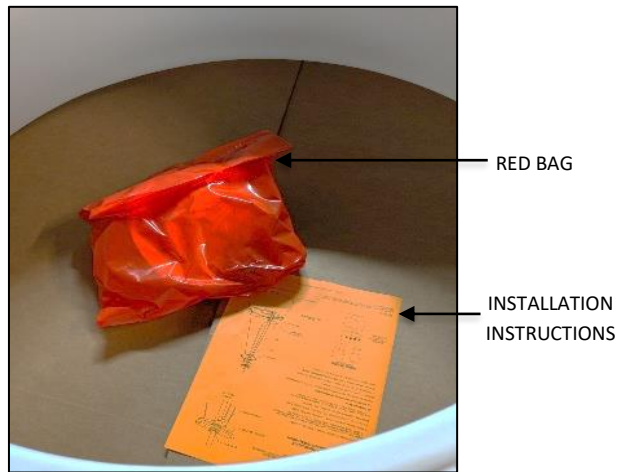

FIG.4 RED BAG AND INSTALLATION
2. INSTALLATION INSTRUCTIONS (shown in FIG. 4) - Please completely read the install instructions before starting installation.
4. RED BAG (shown in FIG. 4) contains below following items.